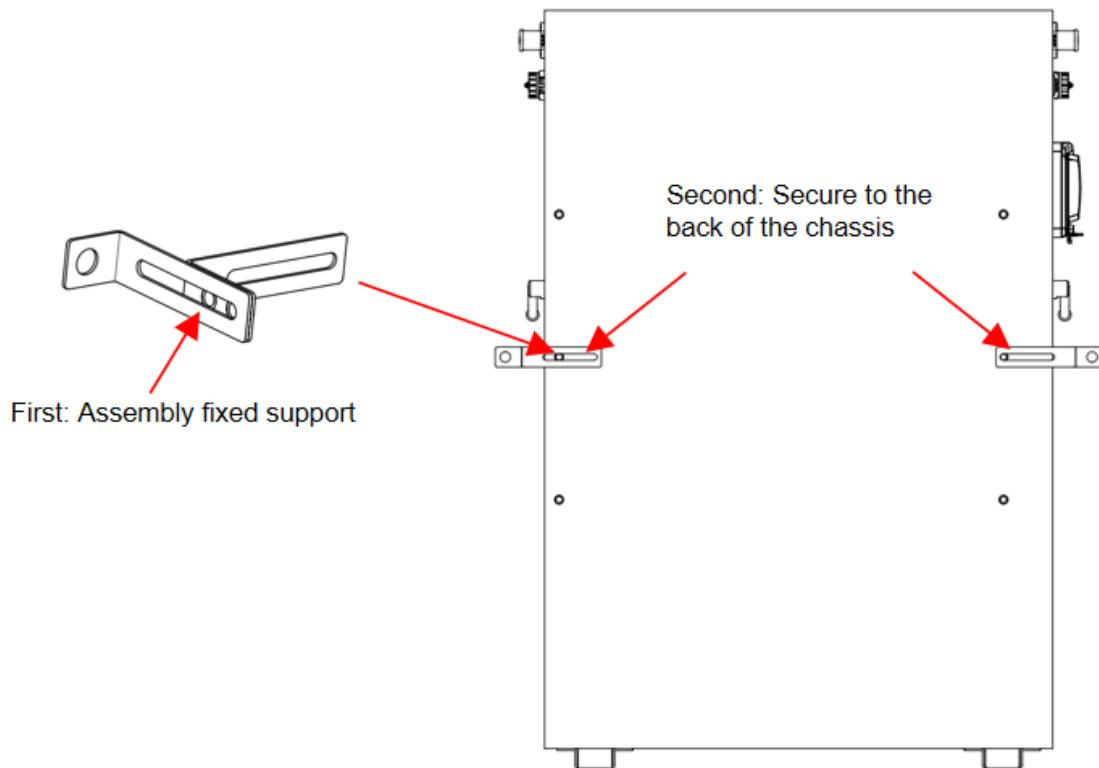

Figure 5-4
e) Use the 4 screws of M6\*12 to fix the left and right retaining ears to the back of the battery. The distance between the two supports ranges from 563 to 589mm, and can be moved about 26mm, as shown in Figure 5-4.